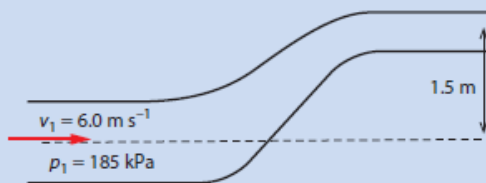

Figure B.52
B.26 Water of density 1000 kg m^{-3} flows in a horizontal pipe (Figure B.52). The radius of the pipe at its left end is 65 mm and that at the right end is 45 mm. The water enters from the left end with a speed of 6.0 m s^{-1} . The pressure at the left end is 185 kPa. Calculate the pressure at the right end of the pipe, at a vertical distance of 1.5 m above the left end.